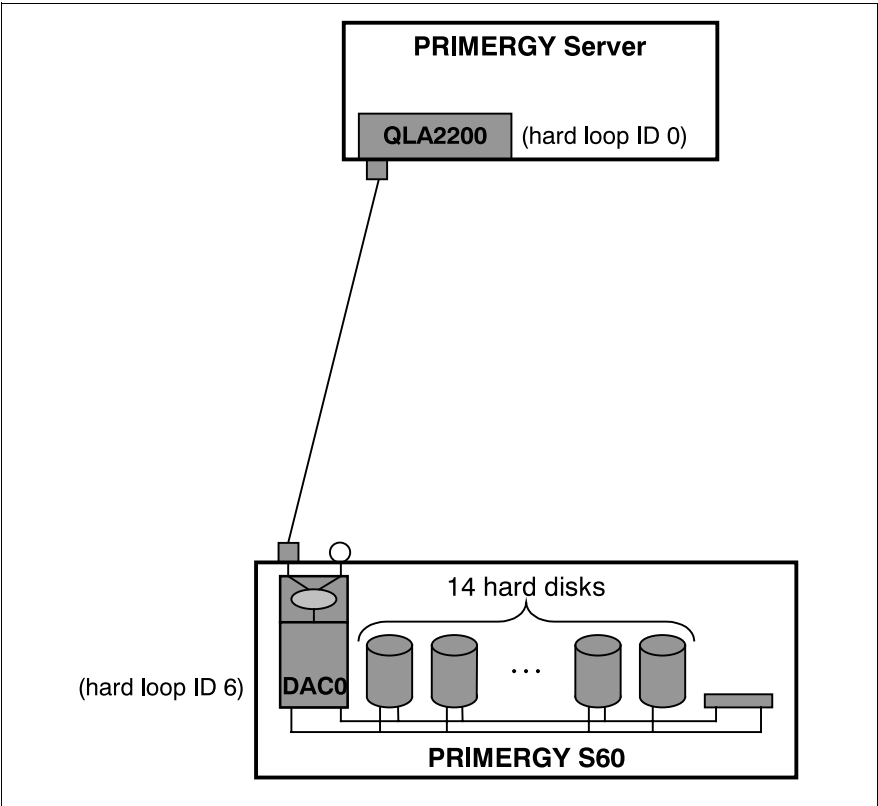

Figure 15: Direct Attached Storage Subsystem
- Loop IDs (see figure 15 on page 19)